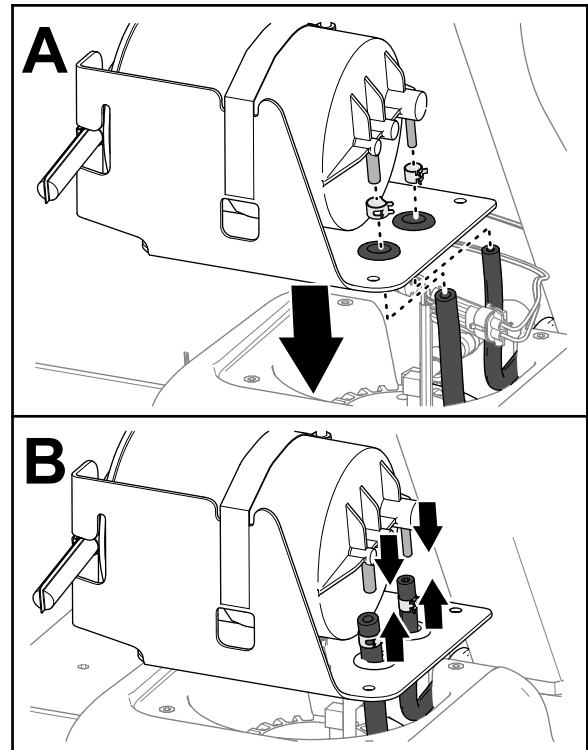

Figure 90
1. Align the fuel tank hoses through the grommets of the carbon-canister bracket (Figure 90).
2. Assemble the hose clamps over the hoses (Figure 90).
3. Assemble the hoses onto the fittings of the carbon canister (Figure 90).